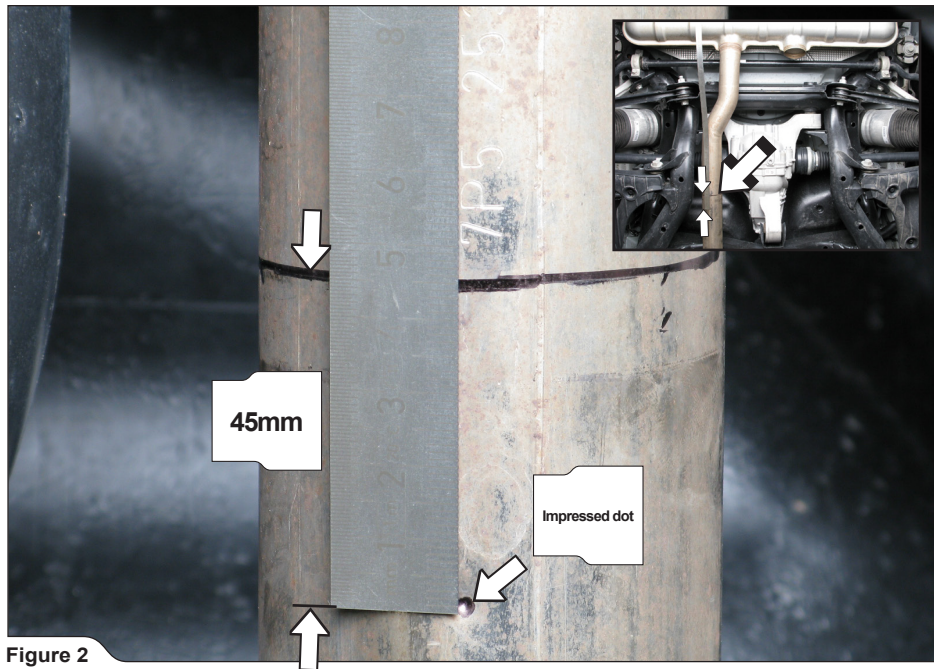

Figure 2
2. **For Diesel model only:** mark the stock muffler's inlet pipe **45mm** from the impressed dot (towards the back of the vehicle). Carefully cut the pipes, using pipe cutting tool or equivalent (Figure 2).